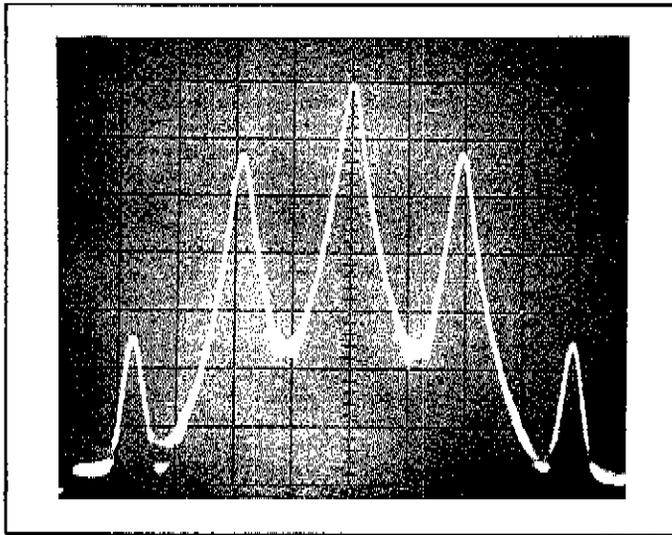

Figure 3-2. Amplitude Modulated (AM) Output
c. Change the Spectrum Analyzer controls as follows: bandwidth, 0.1 kHz; scan width per division, 0.5 kHz; scan time per division, 0.2 s, and enable the signal stabilizing circuits. Verify that the display is similar to Figure 3-2.